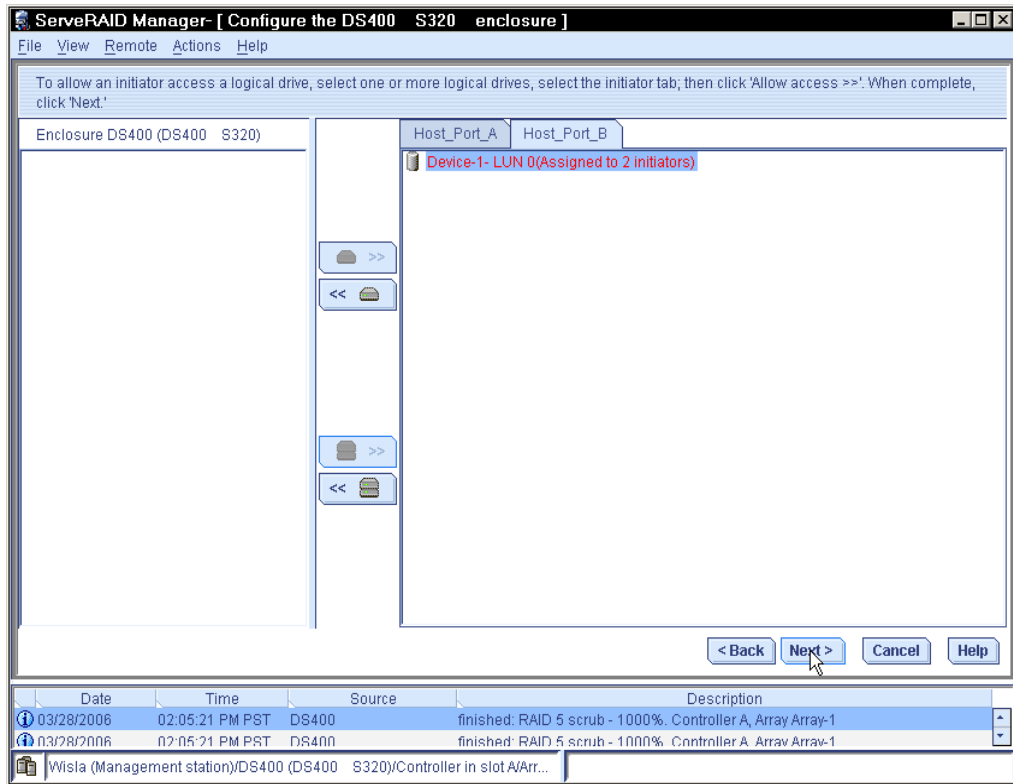

Figure 43 Drive mapping dialog
10. To each of the tabs, add the logical drive you just created. It is highlighted in bright red that you just assigned the same logical drive to two initiators, see Figure 43 on page 35.